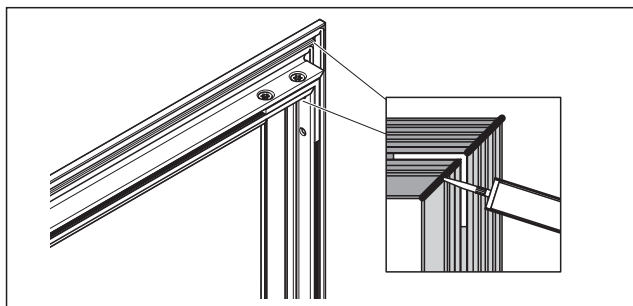

Fig. 30 Siliconize the impact areas from the inside
- When mounting in a soundproofing unit, siliconize all impact areas from the inside (Fig. 30).